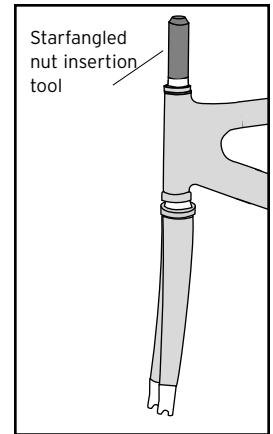

Fig. 26
5. Thread the star-fangled nut insertion tool into the star-fangled nut already installed in the fork steerer tube (Fig. 26).